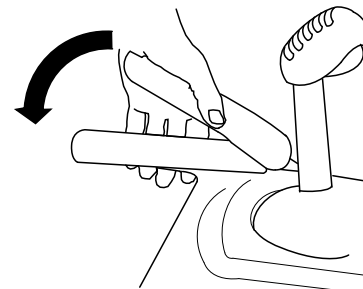

Figure 22
1. To engage the traction drive, squeeze the left (traction) lever to the handgrip (Figure 22).